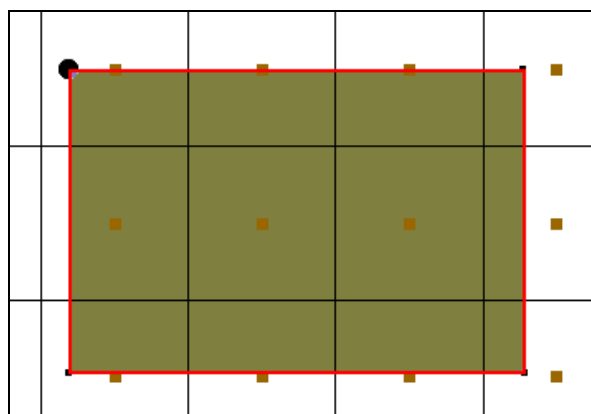

Figure 5 The polygon created from the arc
4. Select *Feature Objects* / **Build Polygons** to create a polygon (Figure 5).